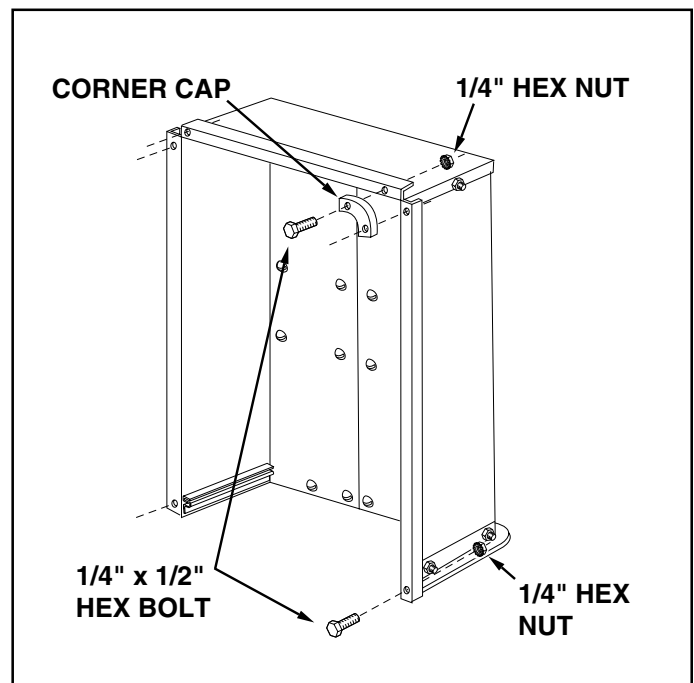

FIGURE 8
12. Assemble the two corner caps to the front corners of the cart using four 1/4" x 1/2" hex bolts and 1/4" hex nuts. Also assemble two 1/4" x 1/2" hex bolts and 1/4" hex nuts to the two rear corners of the cart. **TIGHTEN**. See figure 8.